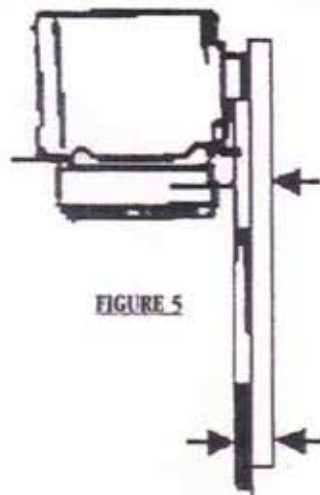

FIGURE 5
- Align belt by vertically centering motor pulley in-line with blower pulley (see Figure 5).
Correct belt tension and alignment is important as it cuts power consumption and prolongs life of belt and motor. When installing or adjusting belt, loosen the motor adjustment bolts and adjust for proper tension for each model as listed below. Do not tighten belt by adjusting motor pulley. Align belt vertically by centering motor pulley in-line with blower pulley (see Figure 5)